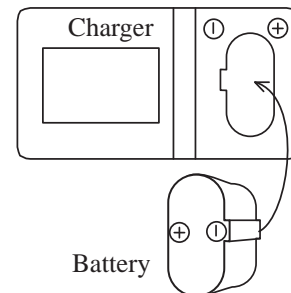

Fig. 1A
- b. If the above phenomenon appears after forcing the battery to insert with wrong direction as illustrated in Fig. 1A, fuse can be damaged.